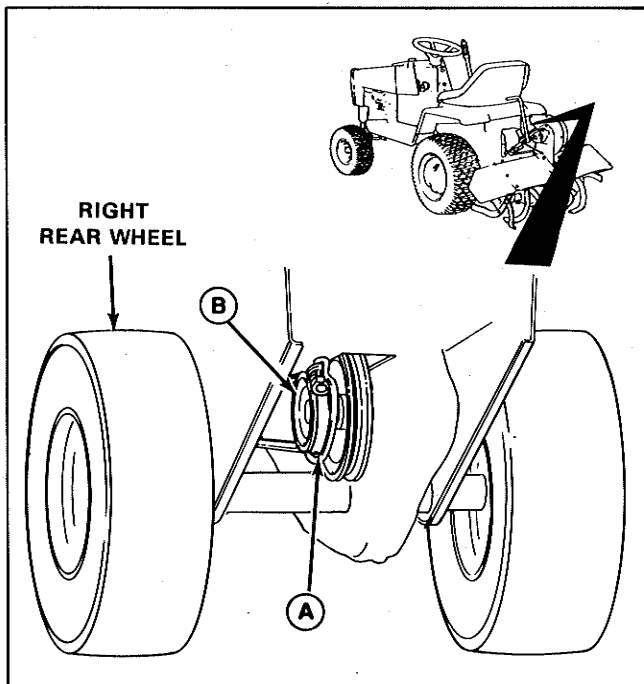

Figure 5. Install Drive Belt on Tractor Pulley
10. Loosen, but do not remove, nut that secures belt stop (item A, figure 5) for tractor power take-off pulley (item B). This pulley is located under tractor near right rear wheel.